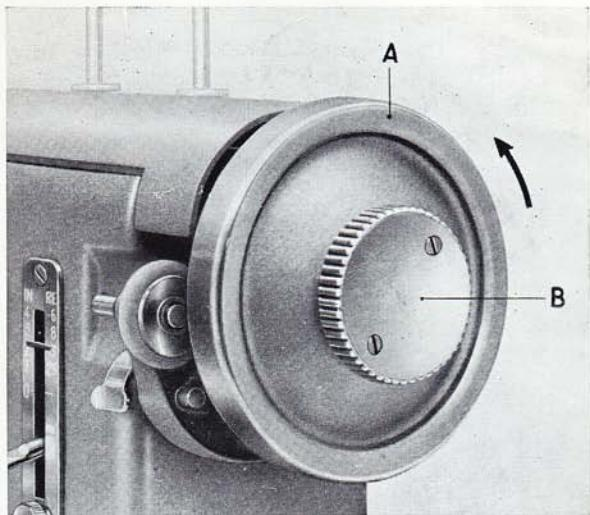

Fig. 6
- a) Disconnect balance wheel « A » (Fig. 6) from sewing mechanism by holding this wheel with left hand and turning stop motion knob « B » toward the left (counter-clockwise) with the right hand, until the knob feels loose.